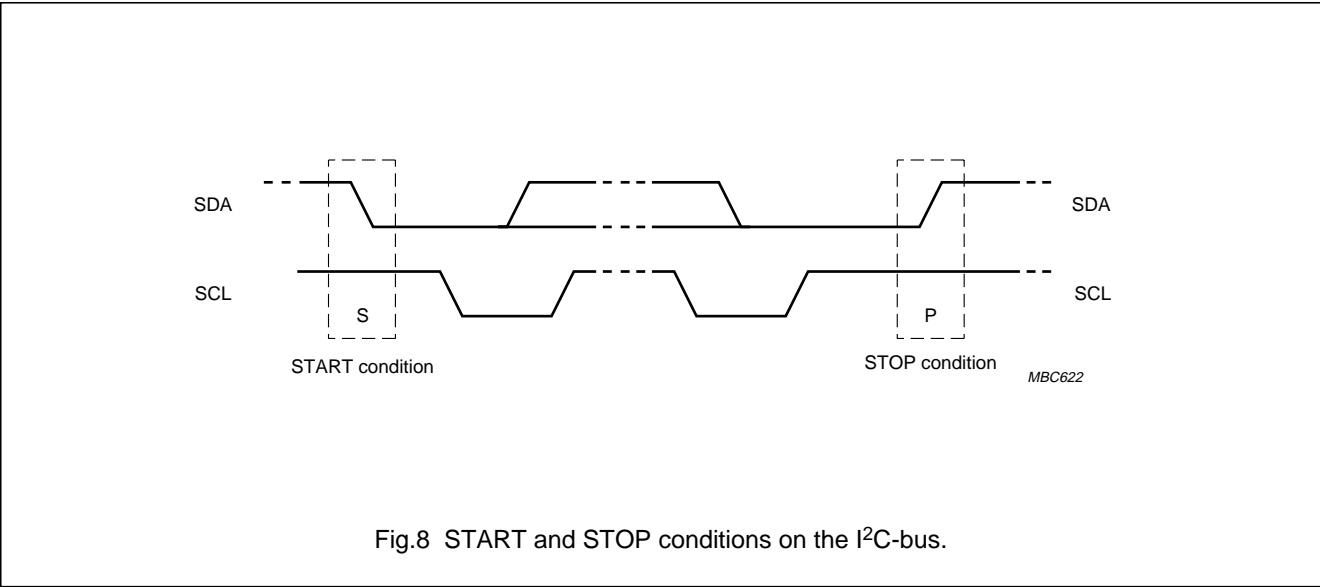

Fig.8 START and STOP conditions on the I²C-bus.
Both data and clock line will remain HIGH when the bus is not busy. A HIGH-to-LOW transition of the data line, while the clock is HIGH, is defined as a start condition (S); see Fig.8. A LOW-to-HIGH transition of the data line while the clock is HIGH is defined as a stop condition (P).